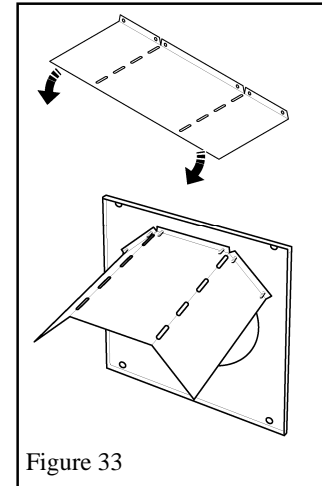

Figure 33
1. Bend the wall shields and screw to the inside of the wall plates with 6 thread cutting screws per plate. See figure 33.